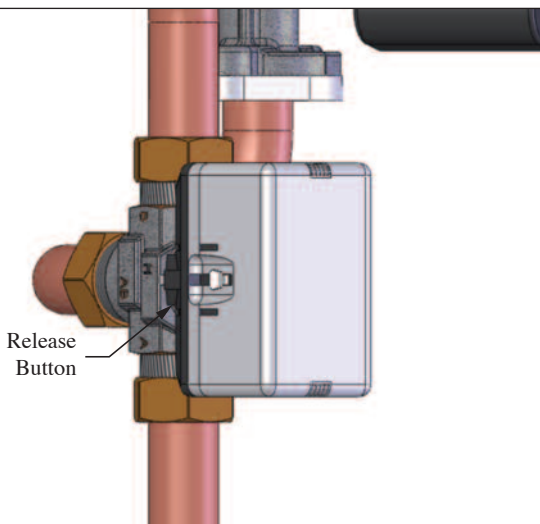

Fig. 1: Locating the Actuator Release Button
4. Remove the diverter valve actuator from the valve body. Depress the catch release button on the left/underside of actuator feed (see Figure 1).